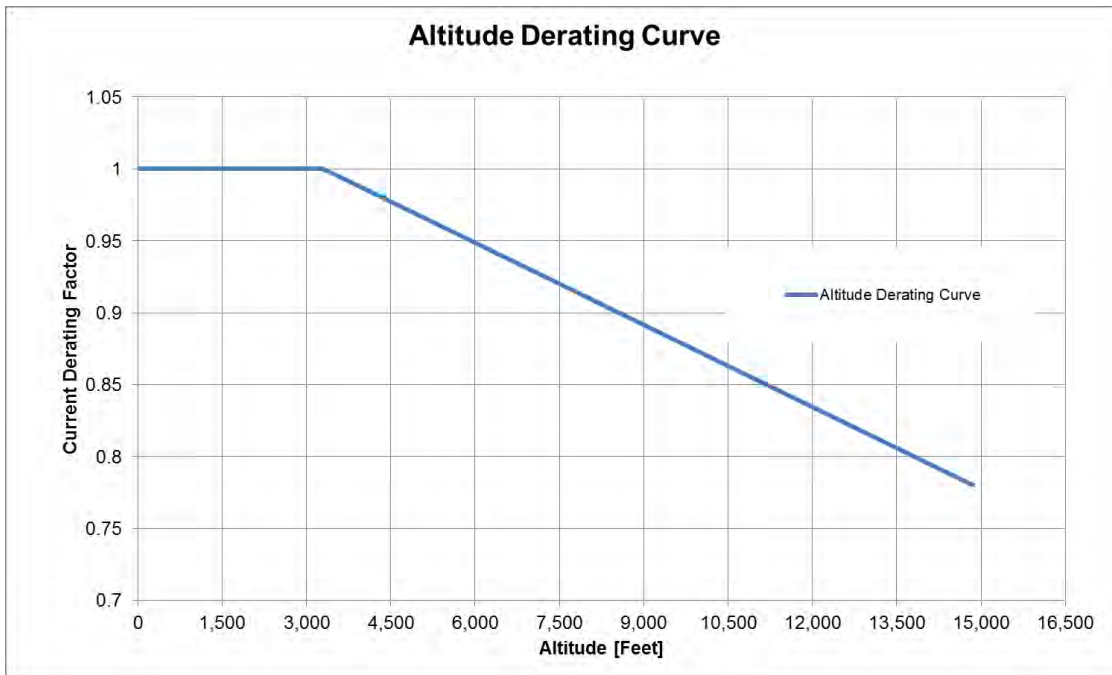

Figure 3: Attitude Derating Curve
- Altitude:** 3,300 feet above sea level without derating. See Figure 3 (p13) for derating curve.